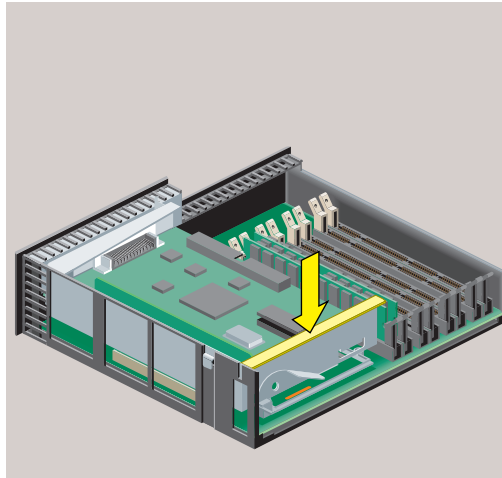

Figure 5-8 PCI Tray Seated Correctly
10. Push the tray down firmly until it is completely seated. Check that the lever returns to its starting position (Figure 5-8).